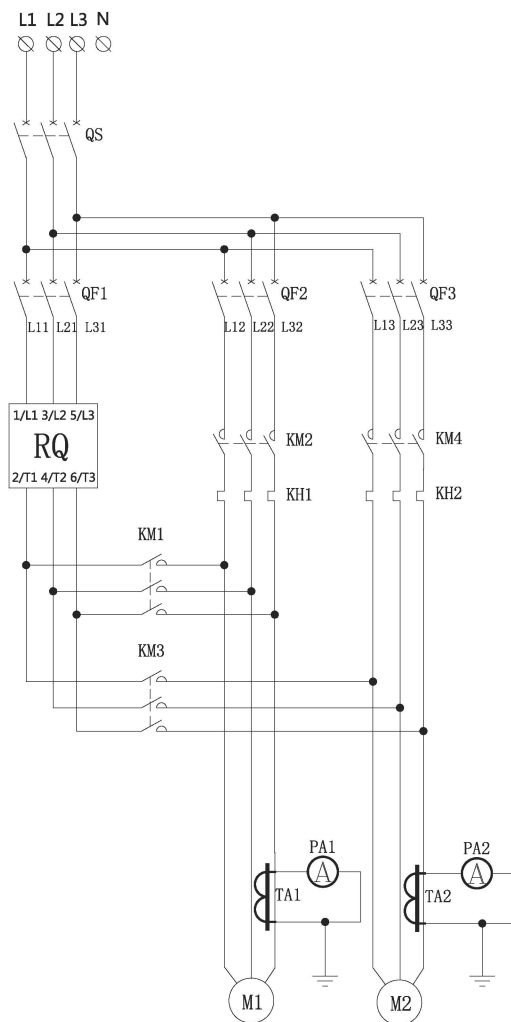

Figure B.2 See figure for the main circuit diagram of one for two.
B.2.1 See Figure B.2 for the main circuit diagram of one – for – two.